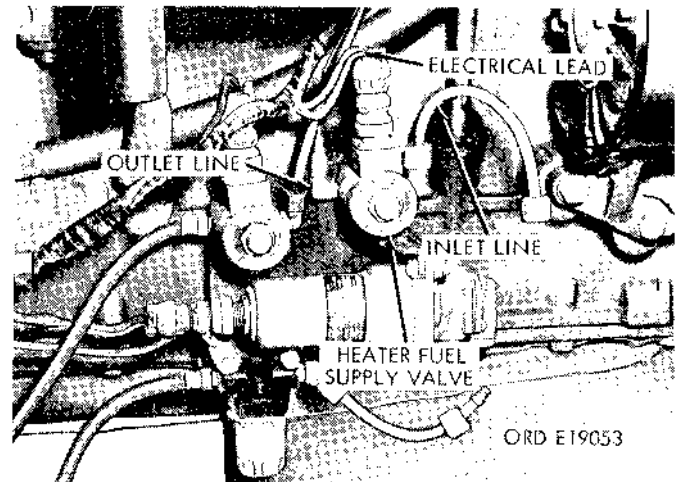

Figure 2-93. Manifold heater supply and fuel return valves—
(1) Disconnect the electrical lead and inlet and outlet lines from heater fuel supply valve and / or fuel return valve (fig. 2-93).
(1) Secure the supply and / or return valves to the bracket (fig. 2-93).
(2) Secure the fuel pump and filter bracket to the crankcase with the three lockwashers and cap screws.
(3) Connect the electrical lead and fuel inlet and outlet lines to the supply valve and / or return valve (fig. 2-93).